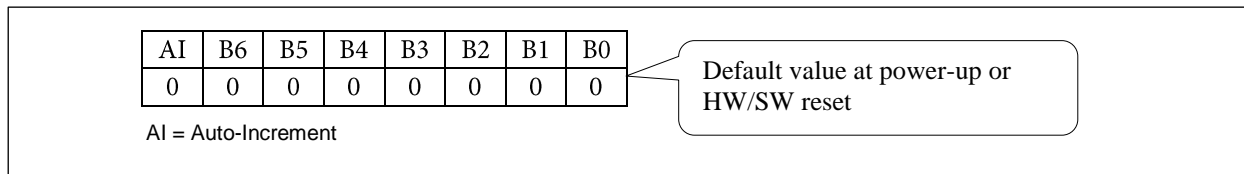

Figure 10. Pointer Register Bits
Following the successful acknowledgement of the address byte, the bus master sends a register address, which is stored in the Pointer register in the PI4IOE5V6524. The lowest 7 bits (B[6:0] in Table 3) are used as a pointer to determine which register is accessed and the highest bit is used as Auto-Increment (AI) as shown in Figure 10. At power-up, hardware or software reset, the pointer register defaults to 00h, with the AI bit set to '0' and the lowest seven bits set to '000 0000'.